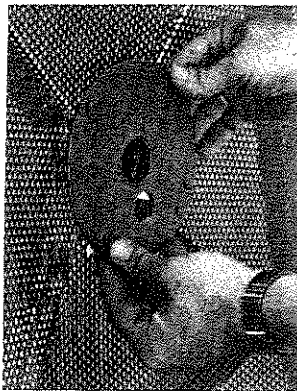

FIGURE 10
STEP 7. Stand reflector against mount and attach mounting brackets to mount frame with (4) 3/8-24x1.25" bolts (flat washers both sides) and nuts with keps washers.
STEP 9. Install feed support in front of reflector. Bolt clamp plate to rear side with 8 #10-32 locking type nuts. Tighten fully. (Figure 10, 11)